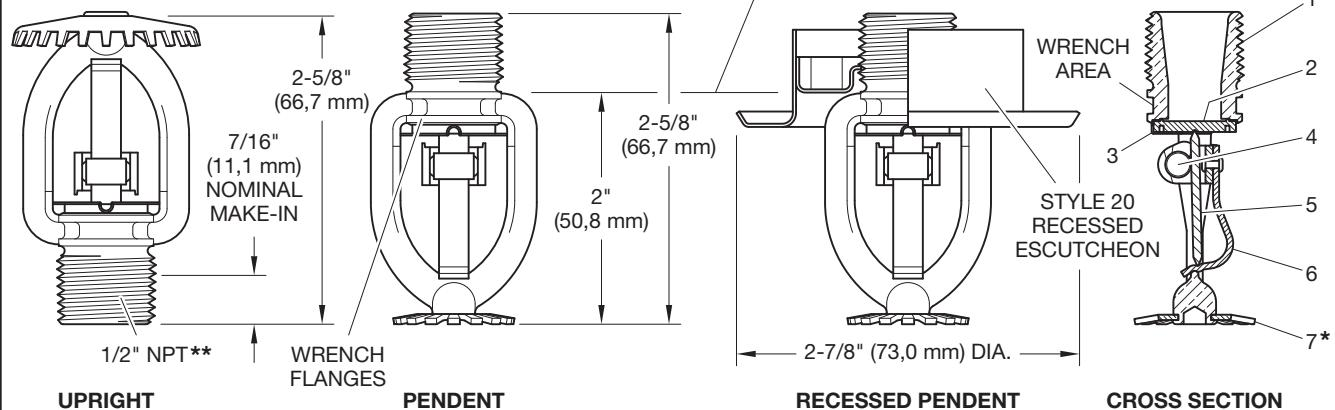
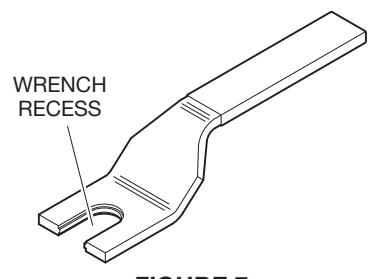
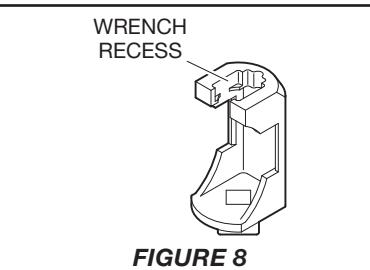

FIGURE 1
FIGURE 7
FIGURE 8
Step 2. Tighten the sprinkler into the sprinkler fitting using only the W-Type 9 Sprinkler Wrench (Ref. Figure 7), except that an 8 or 10 inch adjustable Crescent wrench is to be used for wax coated sprinklers. With reference to Figures 1, 2, and 3, the W-Type 9 Sprinkler Wrench is to be applied to the wrench area, or as applicable, the adjustable Crescent wrench is to be applied to the wrenching flanges.
Step B. Tighten the sprinkler into the sprinkler fitting using only the W-Type 10 Recessed Sprinkler Wrench (Ref. Figure 8). With reference to Figure 1, 2, or 3, the W-Type 10 Recessed Sprinkler Wrench is to be applied to the sprinkler wrenching flanges.